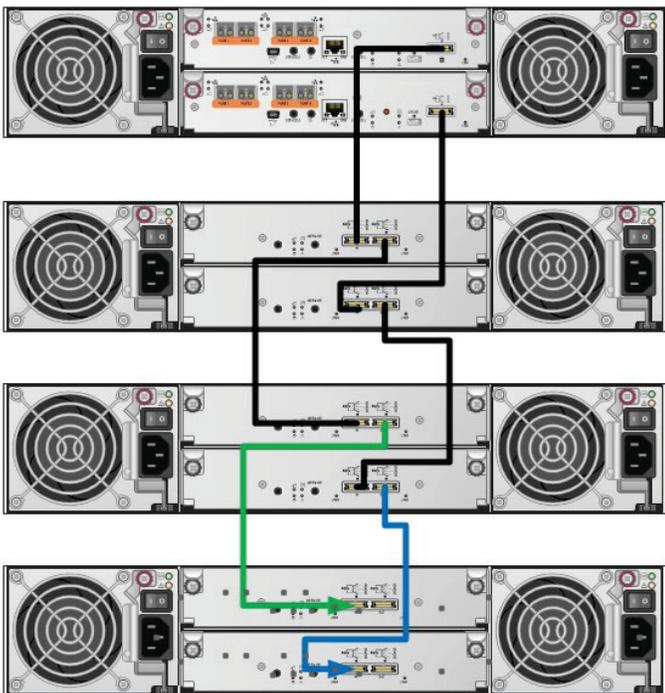

Figure 30. Extended straight-through cabling configuration
4. Connect the new SAS cable (**Figure 30 green** cable) from the A port **Out** of the current HPE MSA Storage System to the A port **In** of the new storage enclosure.
7. Connect the new SAS cable (**Figure 30 blue** cable) from the B port **Out** of the current HPE MSA Storage System to the B port **In** of the new Disk Enclosure.